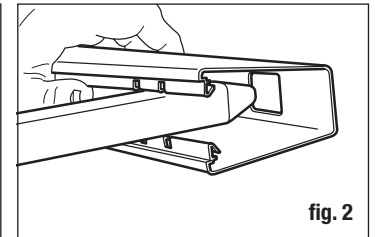

fig. 2
- Insert a picket into the throat of the rail, and proceed through the routed hole as shown. **DO NOT SNAP INTO PLACE** (fig. 2).